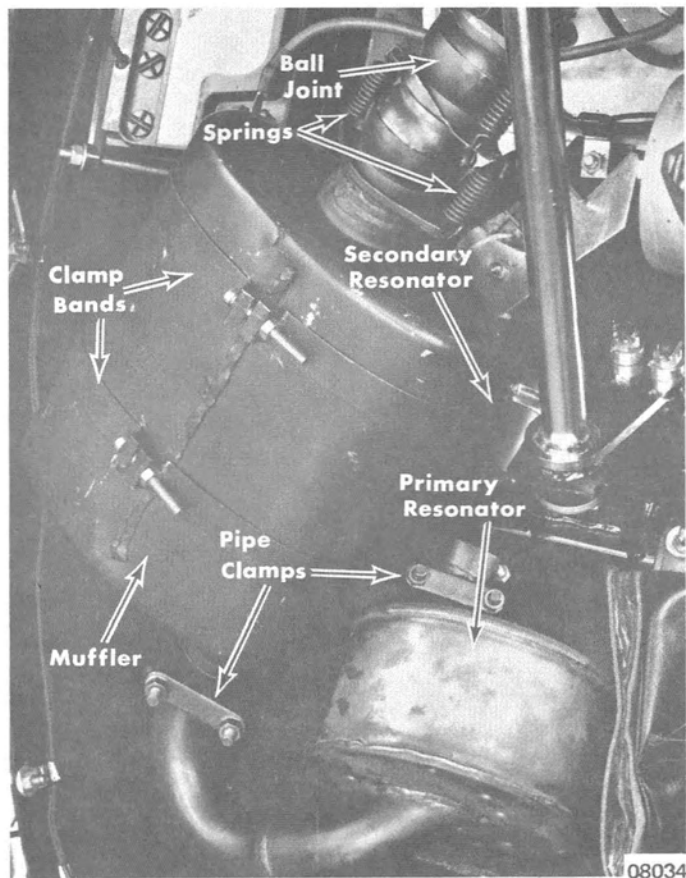

Figure 1. Exhaust System
2. Unhook 2 ball joint springs. Loosen 2 exhaust pipe clamps (one on each side of primary resonator). (Figure 1)
3. Remove screws, lockwashers and nuts which secure muffler clamp bands. (Figure 1)
7. Loosen 2 clamps and remove secondary resonator. (Figure 1)